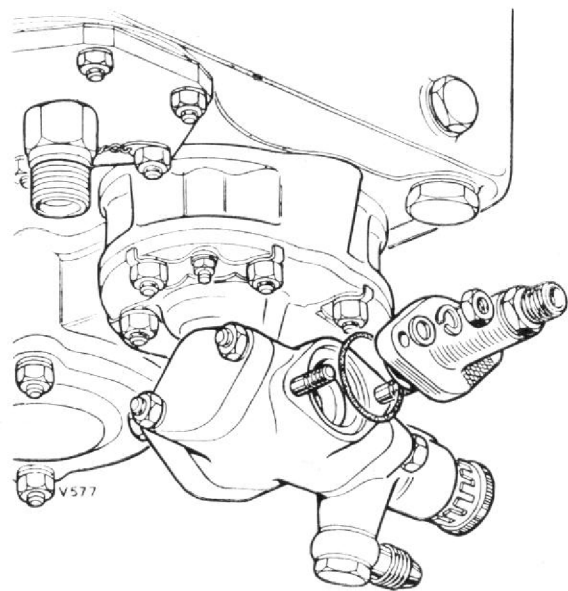

Fig. 2. Metering pump and restrictor.
3. Remove the two 2 B.A. nuts, spring and plain washers which secure the metering pump to the oil pump cover; remove the metering pump and sealing washer, Fig. 2.